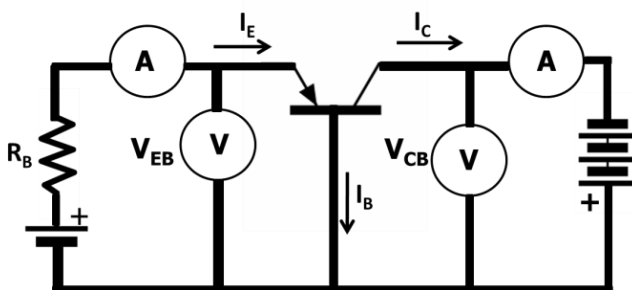

Fig 3.14 Test set up for measurement of Common Base Characteristics
Figure 3.14 shows a pnp transistor in common base configuration. **The base is common to both input and output terminals.**
1. Make the connections as per circuit in fig 3.14.